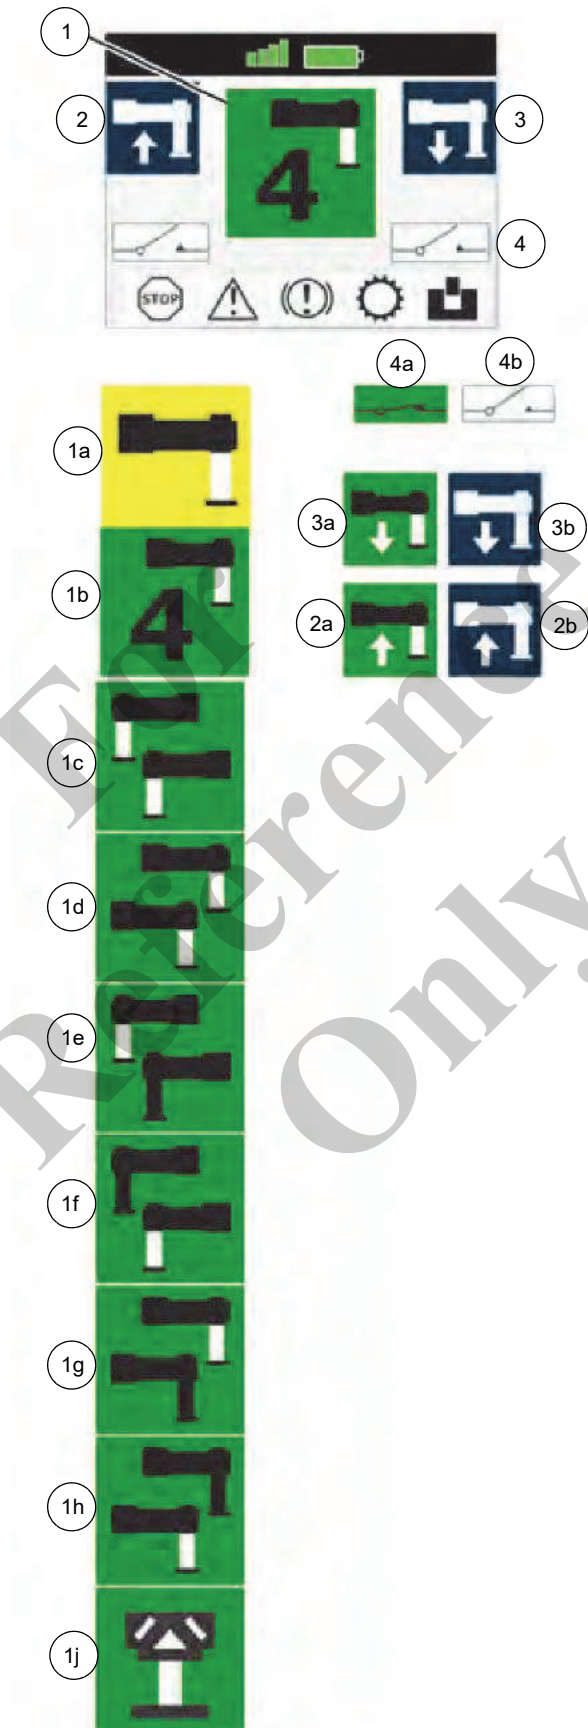

FIGURE 3-57
See (Figure 3-57) and (Figure 3-50).
1. Press the Outrigger Jacks Button(5b), (Figure 3-50) on the remote control as many times as needed until the desired jack screen (1a through 1j), (Figure 3-57) appears.